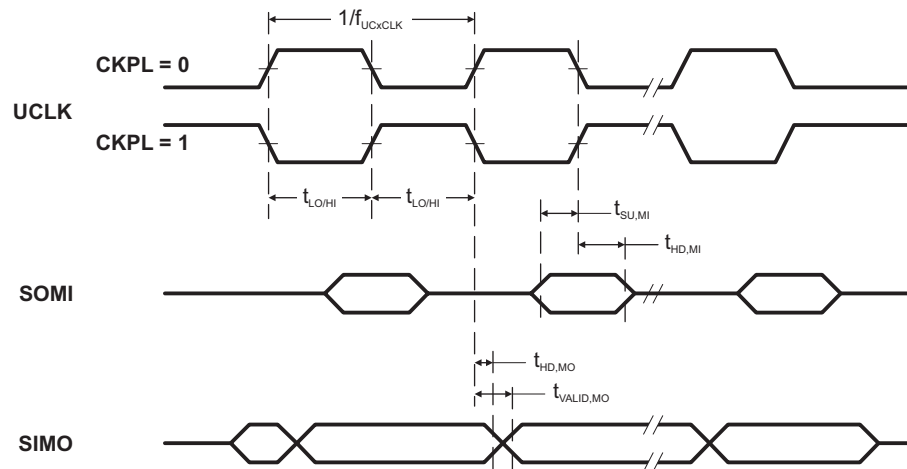
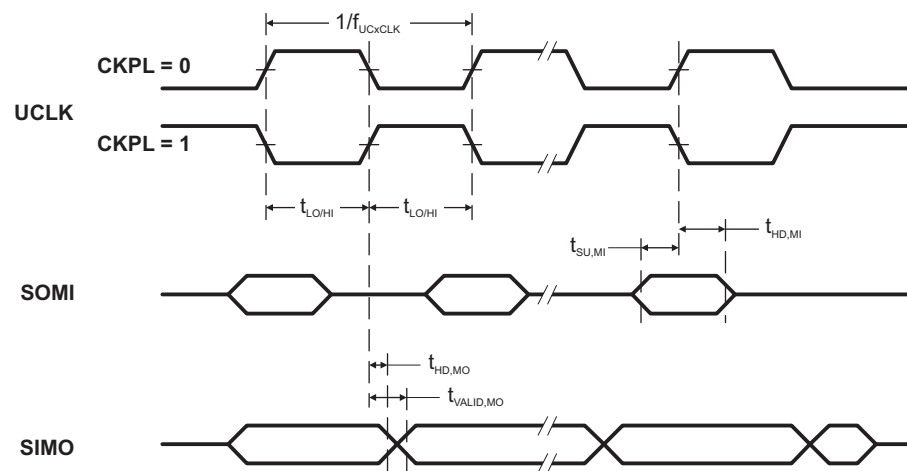

Figure 17. SPI Master Mode, CKPH = 0
Figure 18. SPI Master Mode, CKPH = 1
(see Note ⁽¹⁾, Figure 17 and Figure 18)
- (1) $f_{UCXCLK} = 1/2t_{LO/HI}$ with $t_{LO/HI} \geq \max(t_{VALID,MO}(USCI) + t_{SU,SI}(Slave), t_{SU,MI}(USCI) + t_{VALID,SO}(Slave))$. For the slave's parameters $t_{SU,SI}(Slave)$ and $t_{VALID,SO}(Slave)$ see the SPI parameters of the attached slave.
- (2) Specifies the time to drive the next valid data to the SIMO output after the output changing UCLK clock edge. See the timing diagrams in Figure 17 and Figure 18.
- (3) Specifies how long data on the SIMO output is valid after the output changing UCLK clock edge. Negative values indicate that the data on the SIMO output can become invalid before the output changing clock edge observed on UCLK. See the timing diagrams in Figure 17 and Figure 18.
(2) Specifies the time to drive the next valid data to the SOMI output after the output changing UCLK clock edge. See the timing diagrams in Figure 17 and Figure 18.
(3) Specifies how long data on the SOMI output is valid after the output changing UCLK clock edge. See the timing diagrams in Figure 17 and Figure 18.